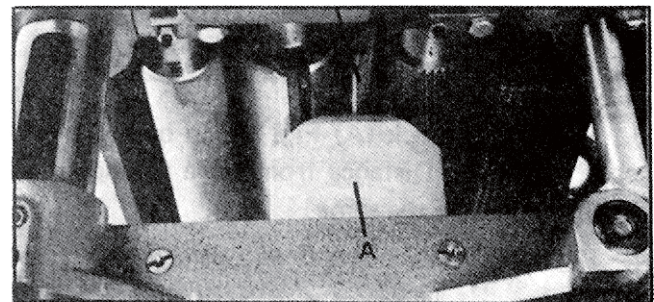

Fig. 33
4. Move the gage block (A) underneath the chipbreaker (D) as shown in Fig. 33. The bottom of the chipbreaker should just touch the top of the gage block. Check opposite end of chipbreaker in the same manner.